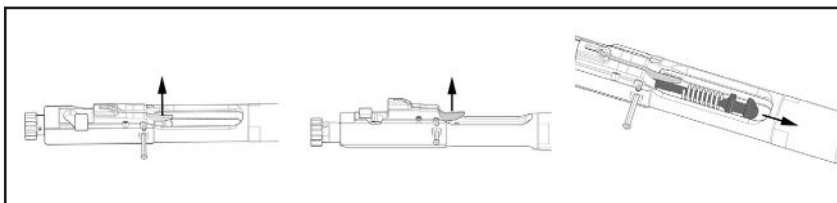

Fig. 39 – Drift out the Firing Pin Retaining Pin
- d. Lift up on the spring loaded drop safety and remove the firing pin and firing pin spring (Fig. 39).